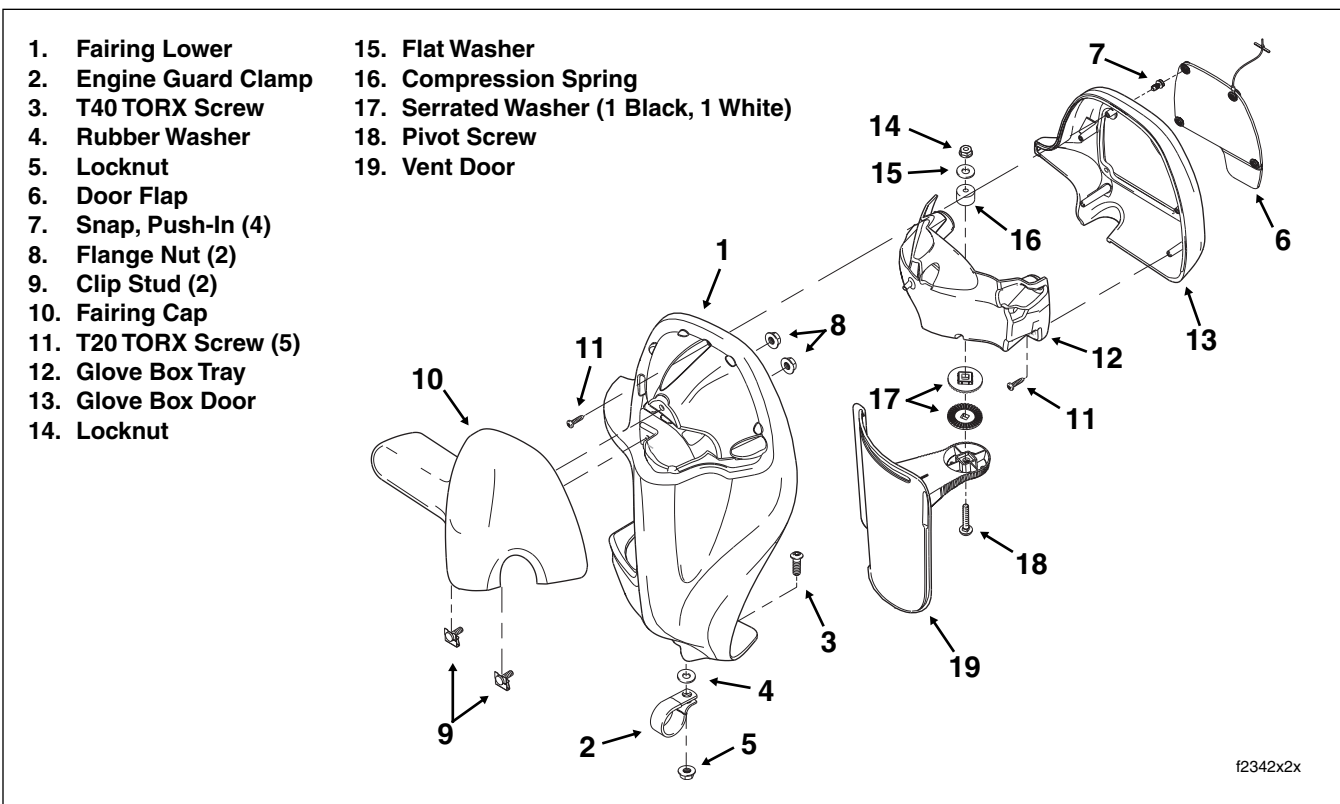

Figure 2-161. Lower Fairing Assembly
2. Reaching into glove box, remove two flange nuts from clip studs and remove fairing cap. If necessary, push ends of studs through holes in glove box tray and fairing lower to release fairing cap. Do not twist or rotate fairing cap or damage may result. See Figure 2-161.